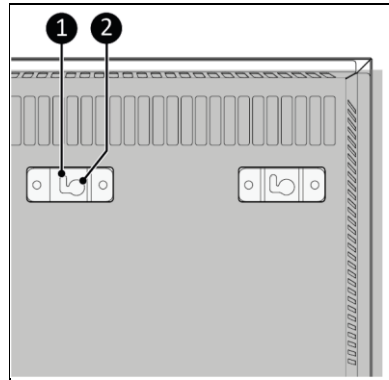

Figure 13
14. Place the bracket holes (Figure 13, pos. 2) over the wall screws.
15. Slide the device to the left and let the device drop into the opening of the brackets (Figure 13, pos. 1).